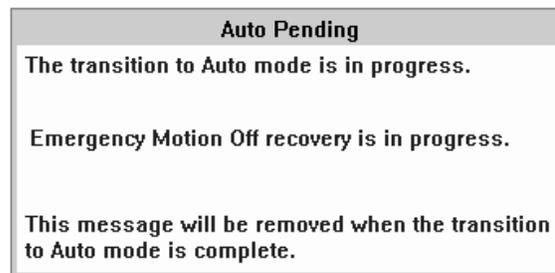

Figure 37. Auto Pending Window
6. The Auto LED on the operator panel flashes until the transition is complete, then stays lit. The Auto Pending window (Figure 37) indicates that the library is changing from Pause mode to Auto mode. **Emergency Motion Off recovery is in progress** displays in the window for a short time during this transition. When Emergency Motion Off Recovery is complete, the window closes.